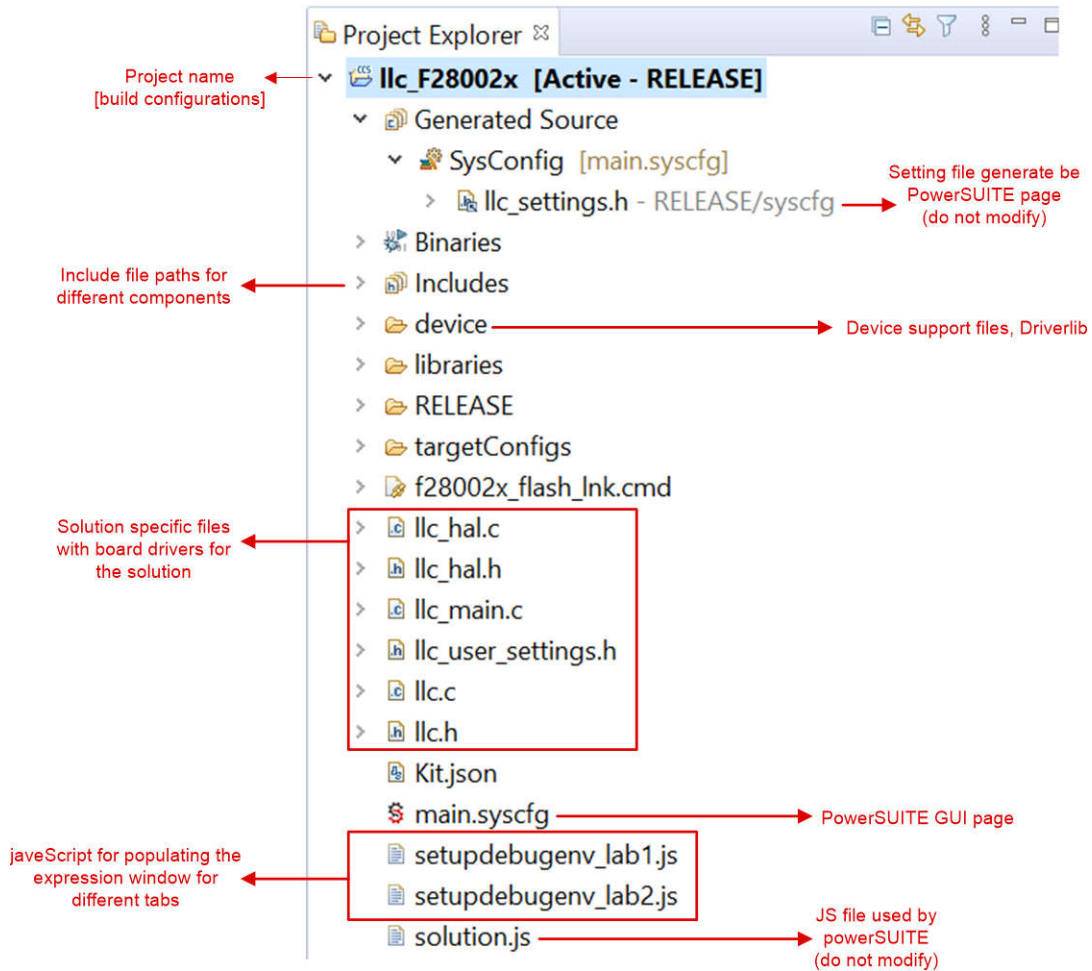

Figure 3-21. Project Explorer View of LLC Solution Project
4. In the project window on the left, click the arrow sign to the left of the project name. The project windows will look like Figure 3-21.
Once the project is imported, the project explorer appears inside CCS as shown in Figure 3-21.